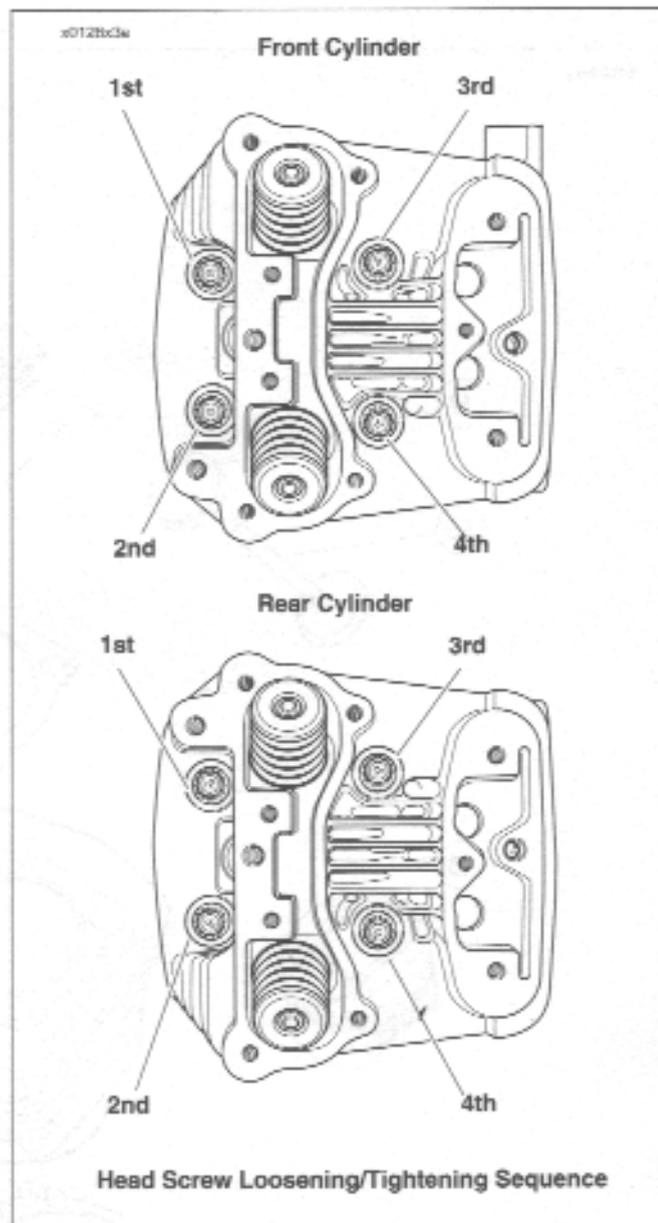

Figure 3-65. Head Screw Loosening/Tightening Sequence
See Figure 3-65. Distortion to the head, cylinder and crankcase studs may result if head screws are not loosened (or tightened) gradually in the sequence shown.
11. See Figure 3-65. Loosen each head screw 1/8-turn following the sequence shown.